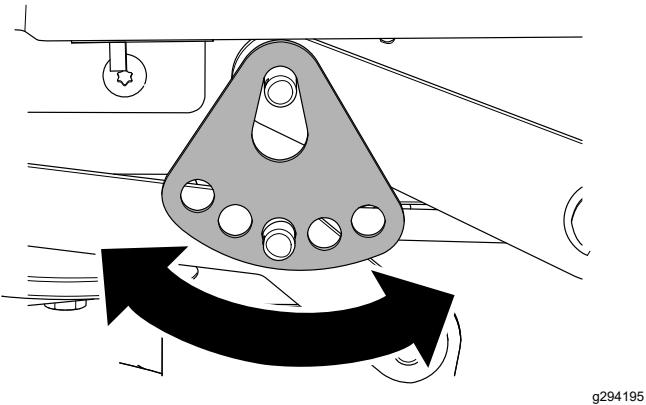

Figure 71
7. Rotate the height-of-cut plate to a different hole so that it supports the weight of the mower deck after you install the plate (Figure 71).